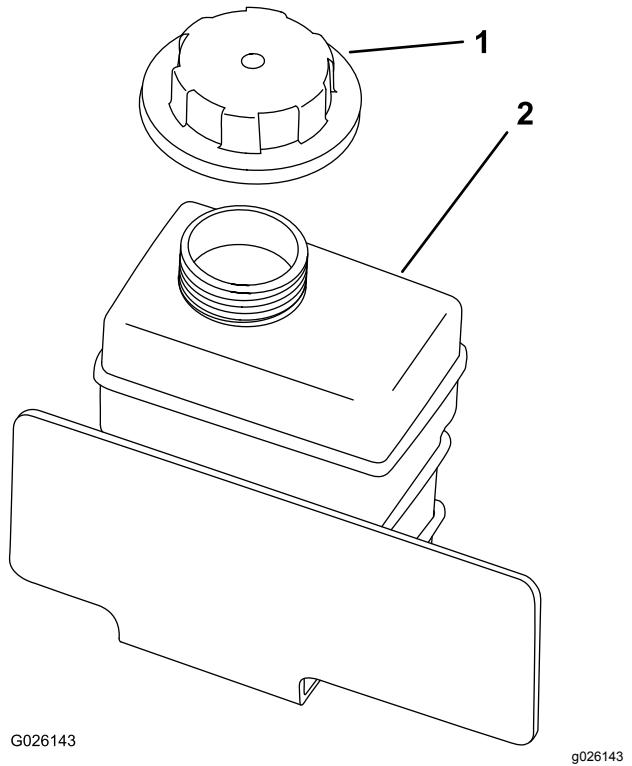

Figure 71
8. Slowly fill the coolant-reserve tank until level reaches the bottom of the filler neck (Figure 71).
9. Install the reserve-tank cap (Figure 71).